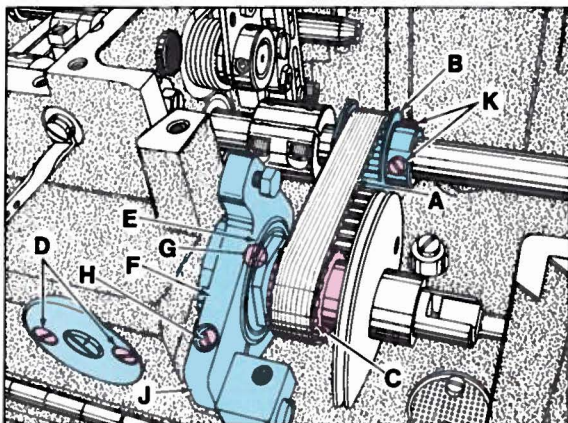

Fig. 6
Looper drive belt (A, Fig. 6) has proper tension if, when turning handwheel in operating direction to position looper in the center of its (right to left) travel - there is no noticeable (right to left) play in the looper mechanism. There should be approximately 1/8 inch (3.2mm) deflection in looper drive belt when pressing firmly with thumb, midway between sprockets (B and C). Adjustment can be made by loosening two screws (D) and turn looper module (E) clockwise (as viewed from handwheel end of machine) to tighten belt tension or counterclockwise to loosen belt tension.
If the reading is above "0" on the gauge, loosen screws (K, Fig. 6) and advance looper drive rear sprocket (B) (towards the operator); if the reading is below "0" on the gauge, sprocket (B) should be retarded slightly (away from operator). If the variation on the scale of the gauge is to the EXTREME - a STARTING POINT for adjustment would be to position sprocket (B) so that when needle bar is at bottom of its stroke, the looper is at right end of its travel. To obtain the above condition, loosen screws (K) and turn sprocket (B) so that looper is at the right end of its travel. While holding looper shaft, turn handwheel to bring needle bar to bottom of its stroke and snug screws (K). Then proceed to fine adjustment as required to attain "0" plus or minus 1 on the gauge in both directions and tighten screws (K) securely, assuring belt is centered on sprockets.